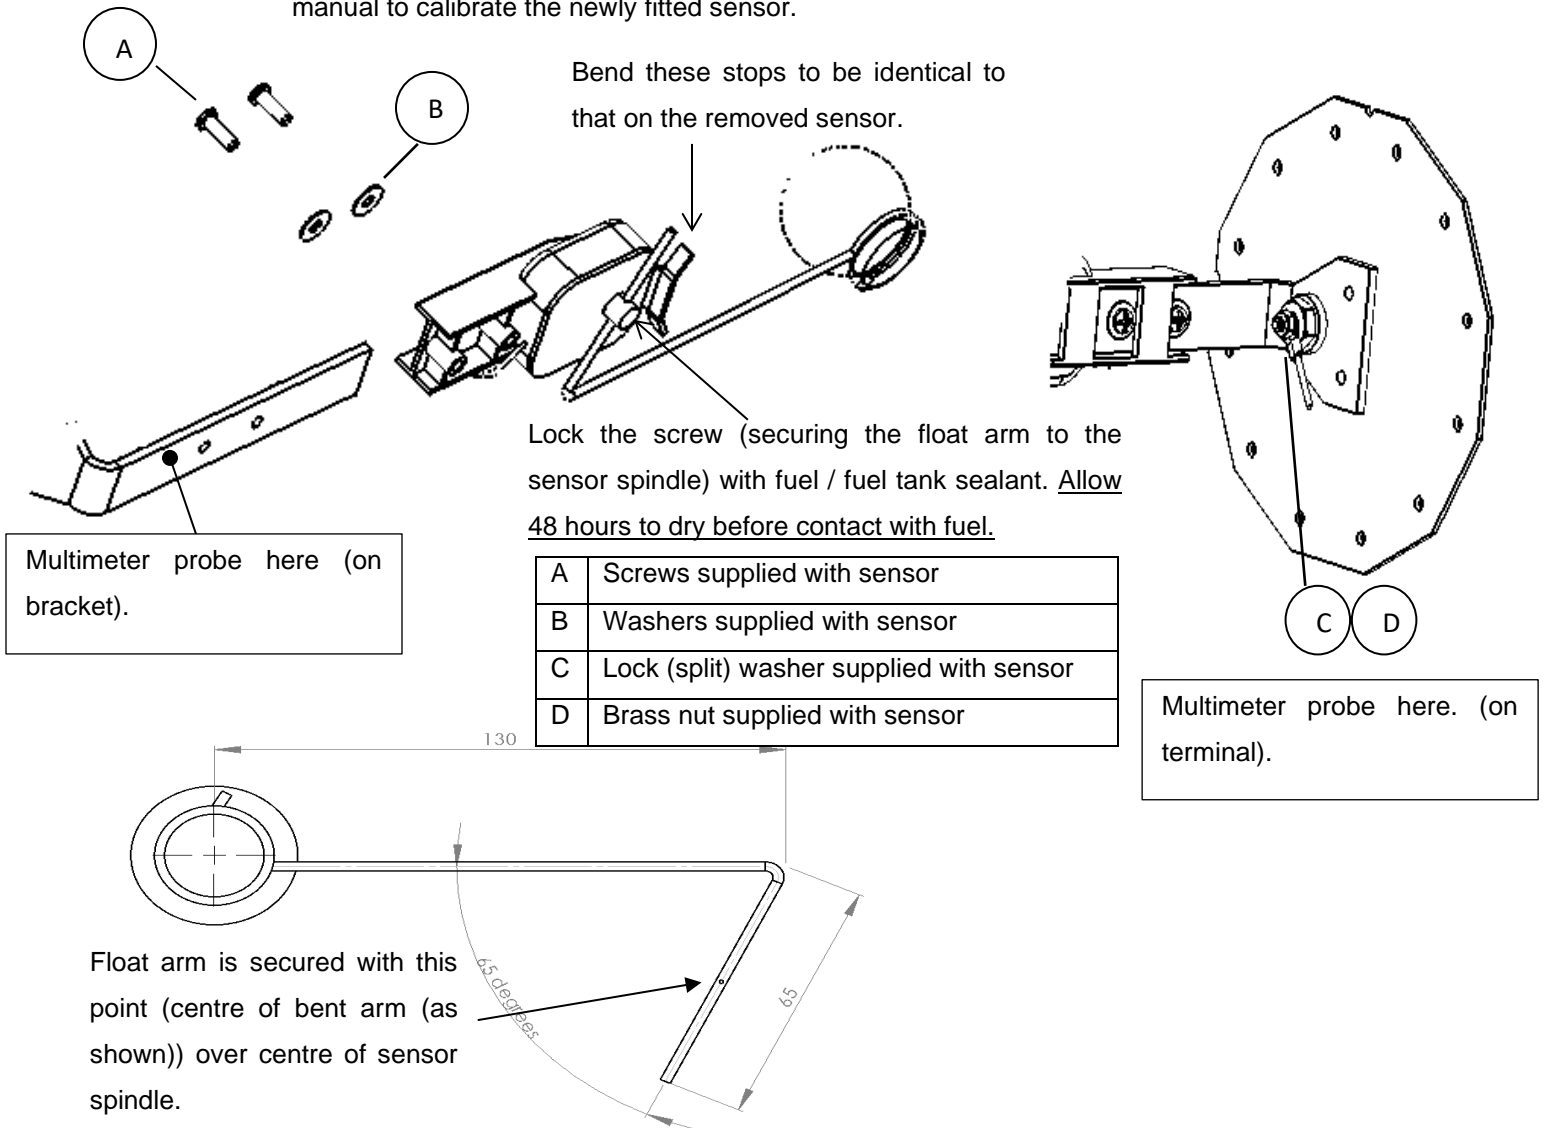

Figure 65: Fuel level sender assembly sensor replacement.
- Observe correct washer placement (refer to Figure 65).
- The sensor is fitted to the bracket with the spindle pointing away (in opposite direction) from the 90 degree bend / plate / part of the bracket attached to the hexagonal tank cover / sender assembly plate, i.e. spindle will face to rear when level sender assembly is installed in fuel tank. See Figure 65.
- (a) The float arm must be fitted to the new sensor with the same point (centre of bent part of arm) on the arm (as was over the centre of the spindle of the removed sensor) over the centre of the sensor spindle (refer to Figure 65). Use the marks made (during disassembly) on the float arm to assist in positioning the float arm before securing it to the sensor spindle.
- (b) Bend the float arm stops (refer to Figure 65) on the replacement sensor to be identical to that on the sensor which was removed.
- Wind the signal wire (1) tightly and securely around the bracket (2) and sensor (3) as shown below, without damaging or distorting / stretching it unnecessarily. Route the signal wire as shown and tie wrap (4) the bundle as shown. Cut the excess tie wrap strap off.
2. Use a multimeter set to measure resistance (set to the 200 Ω range setting, if available or higher) to measure the range of the sensor, with the float arm first flush against one stop and then rotated to lie flush against the other stop (refer to Figure 65). The range measured should be between $> 0 \Omega$ and $< 200 \Omega$ (approximately 8 Ω to 192 Ω). Measuring an open circuit with the float arm flush against any one of the stops indicates that the sensor wiper has moved of the sensor board pick-up and indicates that the stops are not correctly bent. Bend the stops to exactly match those of the sensor previously removed!